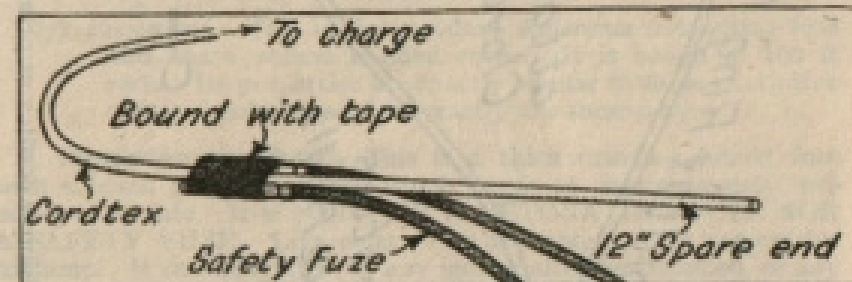

Fig 11. Initiation of cordtex (using 2 detonators to minimise risk of failure).
(b) *Initiation.*—Cordtex can be initiated by one detonator, but for the reasons given in para 4 (c) above two detonators should normally be used each with its own safety fuze. Lash the detonators firmly to the fuze as shown in Fig 11. See that the detonators are in good contact with each other as well as with the detonating fuze. It is particularly important that the closed ends of the detonators are lashed on in good contact with the fuze. The smallest gap may well cause failure. In emergency one detonator and safety fuze may be used. Where the detonating fuze is suspected
2. Initiation.—Use an improvised initiating set composed of 1 ft of detonating fuze fired by two detonator assemblies with detonator, safety fuze and igniter (see Fig 11). Make these sets up previously with sealing tubes at both ends of the detonating fuze. In the 2-in torpedo Mk 1 a primer is required; this fits into a recess at the male end of the tube. In the 1½-in torpedo a special primer is already in position; it contains a hole for the detonating fuze.